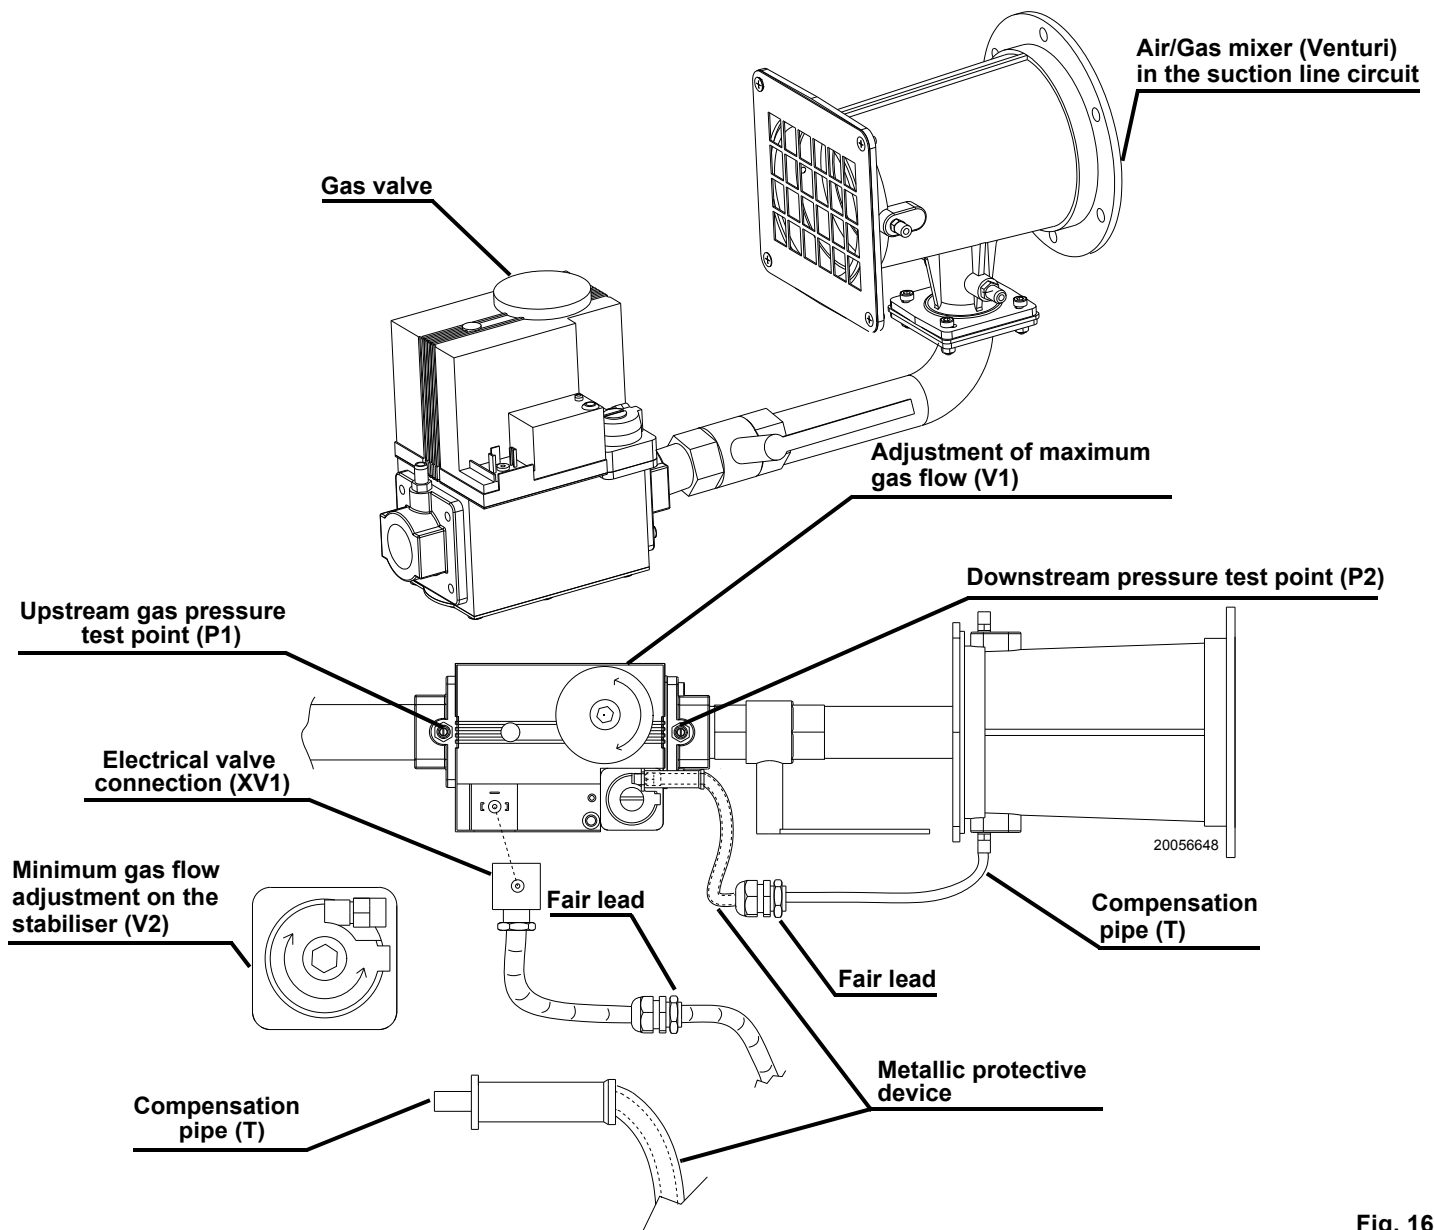

Fig. 16
- bleed the air from the gas pipes using the screw on the socket (Fig. 16, page 22).